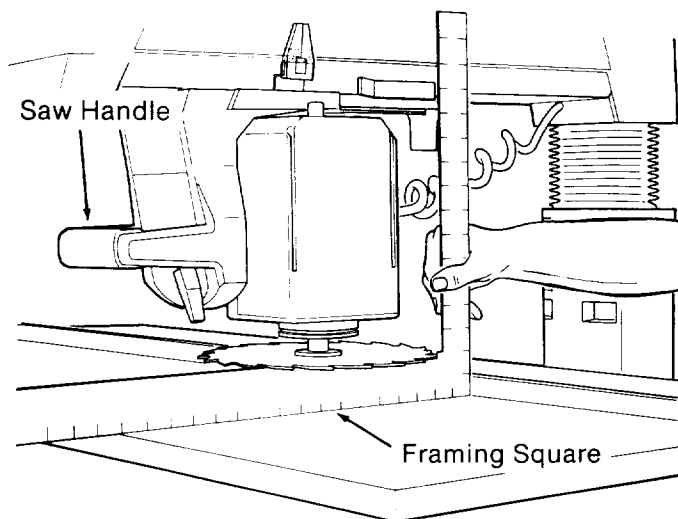

Fig. 79
5. Place the corner of the framing square against the *fence* so that the long edge is on the *table* under the *blade* and the short edge is sticking up in the air. Make sure that the long edge is perpendicular to the *fence*. (Figure 79)